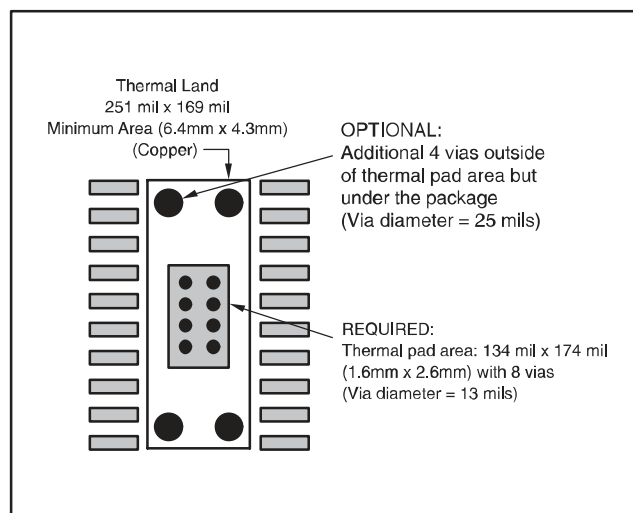

Figure 7. PWP-20 PowerPAD PCB Etch and Via Pattern
1. Prepare the PCB with a top side etch pattern, as shown in Figure 7. There should be etch for the leads as well as etch for the thermal land.
2. Place the recommended number of holes (or thermal vias) in the area of the thermal pad. These holes should be 13 mils in diameter. They are kept small so that solder wicking through the holes is not a problem during reflow. The recommended number of holes for the HTSSOP-20 PowerPAD package is eight, as shown in Figure 7.
3. It is recommended, but not required, to place a small number of the holes under the package and outside the thermal pad area. These holes provide additional heat path between the copper land and ground plane and are 25 mils in diameter. They may be larger because they are not in the area to be soldered, so wicking is not a problem. This is illustrated in Figure 7.